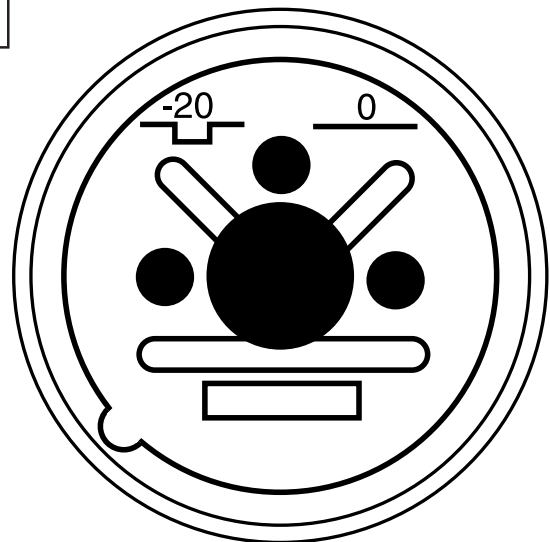

*Fig. 1.*
Types 4011 and 4012 are acoustically identical, but differ in their preamplifier powering system. The 4012 is powered with 130V via the HMA4000 High-Voltage Microphone Amplifier and has a modified 4-pin XLR-connector (see Fig. 1 for pin designation). This special powering system enables the microphone preamplifier to handle approximately 10dB higher sound pressure level than similar microphone types powered through conventional P48 systems (4012: 168dB SPL peak and 4011: 155dB SPL peak). Both the 4011 and the 4012 together with the HMA4000 are transformerless. The 4011 is powered via a standard P48 system and is equipped with standard 3-pin XLR-connector (see Fig. 2 for pin designation), but has an attenuator switch built into the
**Polarity:** 4012: Positively increasing sound pressure produces positive-going voltage at pin 4. Pin 1: Ground, Pin 2: Not used, Pin 3: 130 V DC preamplifier supply, Pin 4: Signal. See Fig. 1.